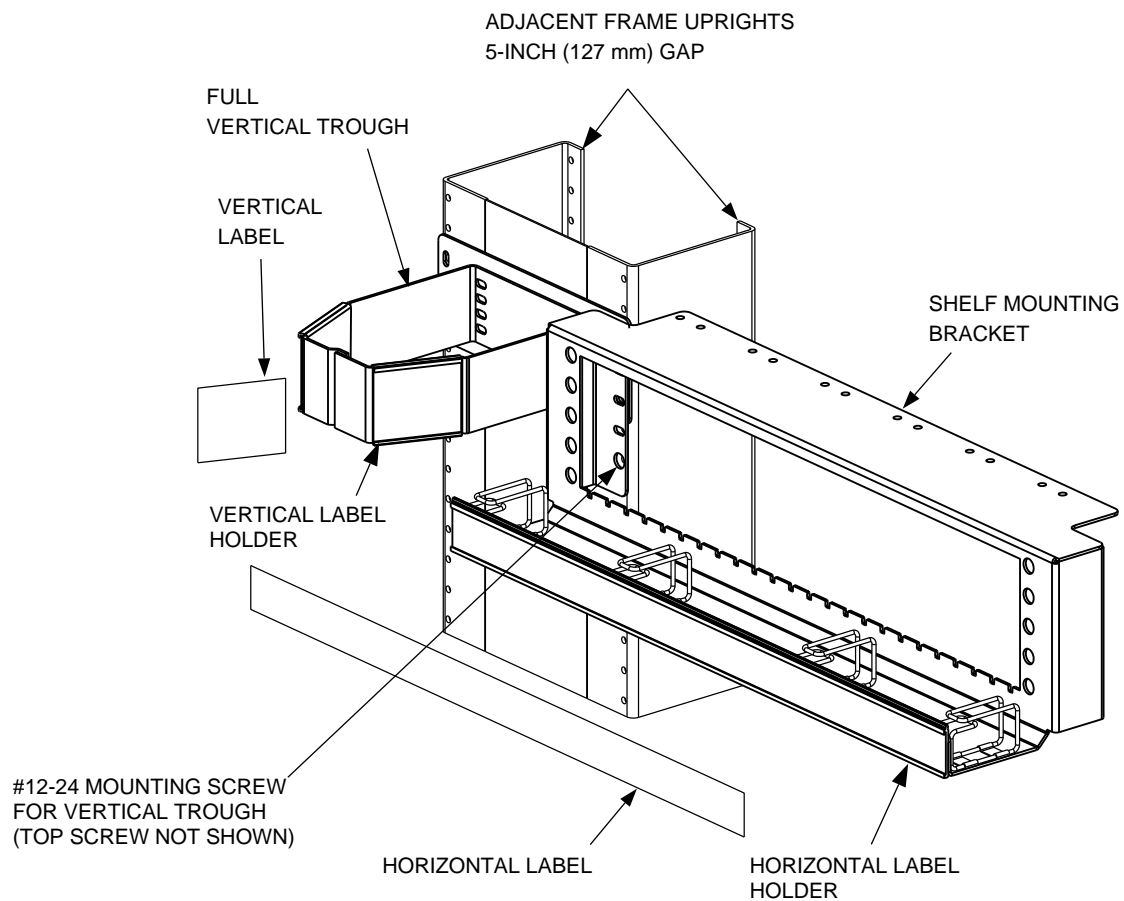

Figure 12. 900G3-E1 (or E2) Tie-Circuit Panel Hardware Installation
2. Secure mounting bracket with four No. 12-24 screws (see Figure 12).